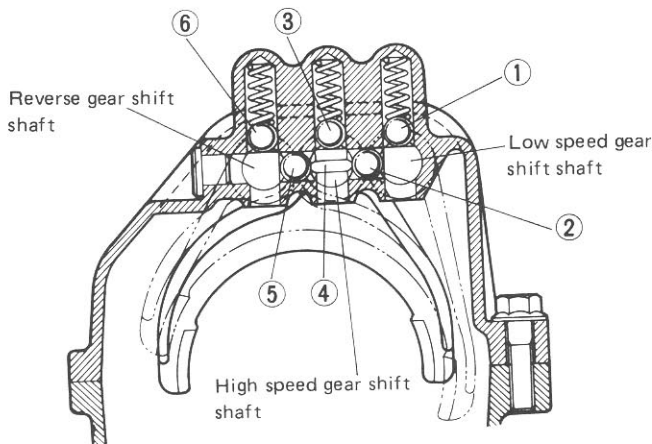

Fig. 13-58
Note that 3 shift shafts individually have a locating ball and locating spring, and that 2 interlock balls and an interlock roller are used between shafts as shown in Fig. 13-58.
- 4) Install interlock ball ( ② in Fig. 13-58) and locating ball ( ③ in Fig. 13-58) in upper case. After installing interlock roller ( ④ in Fig. 13-58) in high speed gear shift shaft and insert shaft into upper case as described in 2) and 3).
- 5) Install interlock ball ( ⑤ in Fig. 13-58) and locating ball ( ⑥ in Fig. 13-58) into upper case. Then insert reverse gear shift shaft into upper case as described in 2) and 3).